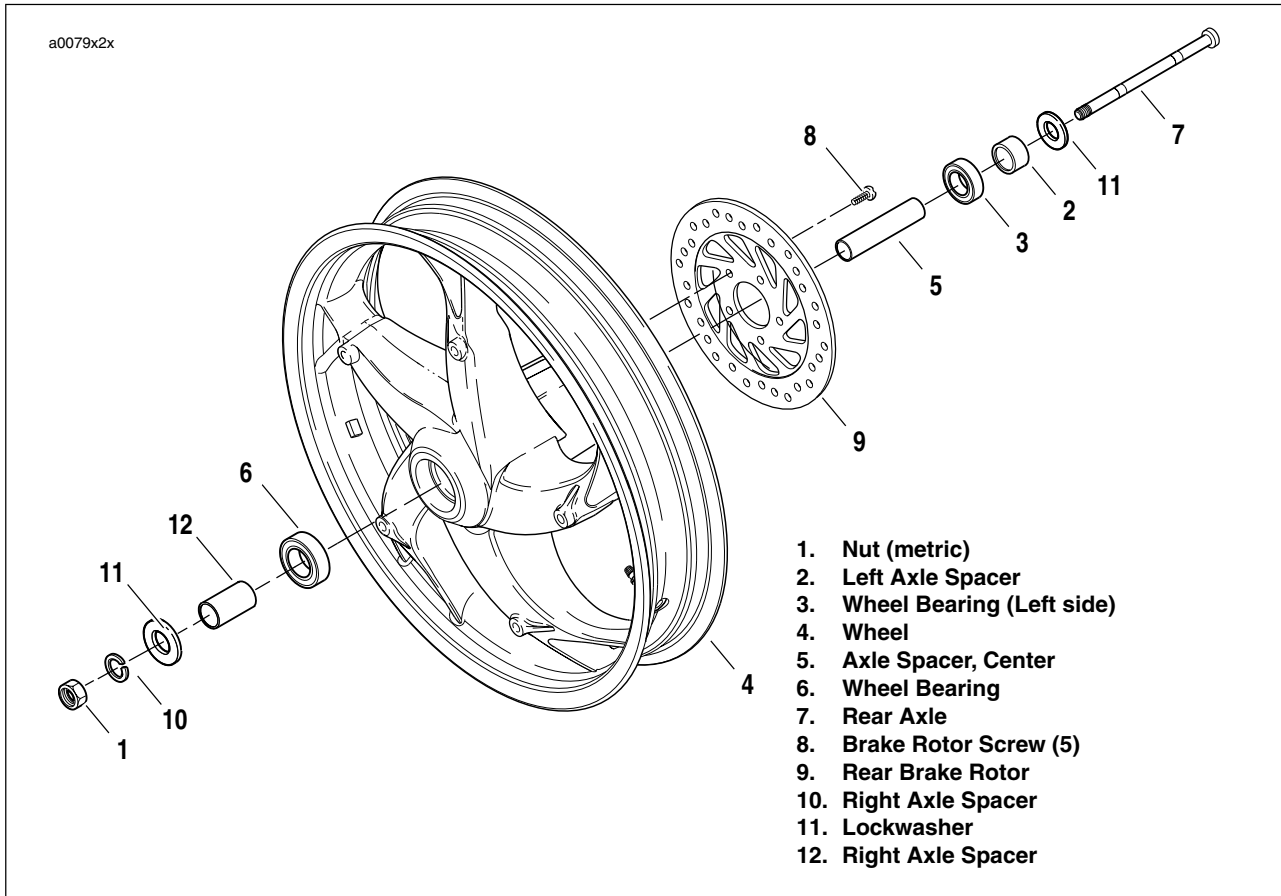

Figure 2-9. Rear Wheel Assembly
5. See Figure 2-9. Install brake rotor (9) to wheel.
- b. Apply **LOCTITE THREADLOCKER 272 (red)** to threads of each of the five T40 TORX screws (8).
- c. Install rotor (9) on wheel hub. Tighten TORX screws in criss-cross pattern to 24-27 ft-lbs (33-37 Nm).